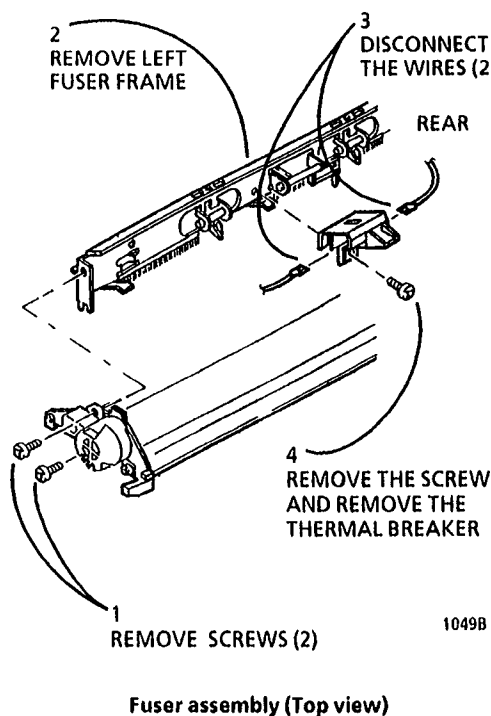

Figure 2. Removing the Thermal Breaker
5. (Figure 2): Remove the thermal breaker.